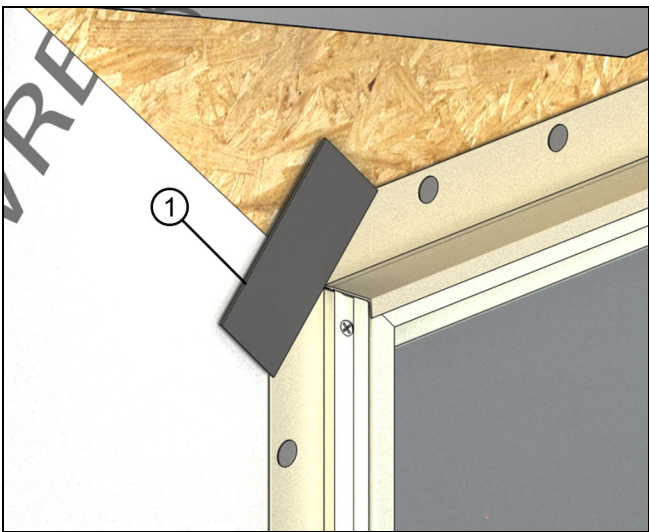

Figure 8
1. On units that use nailing fin, apply a 2" x 4" strip of flashing material at 45 degrees to the corner, bridging the gap between the nailing fin. Do this at all 4 corners. See Figure 8.